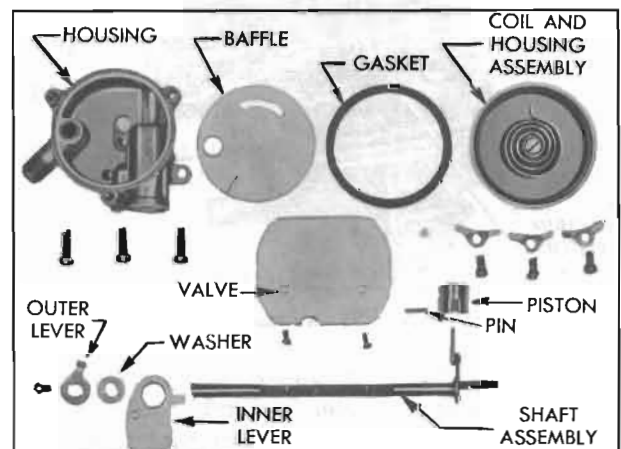

Figure 3-31—Climatic Control—Disassembled
4. Rotate shaft to disengage choke piston from cylinder. Remove choke shaft and lever assembly with piston attached. Remove three screws and remove choke housing from air horn. See figure 3-31.